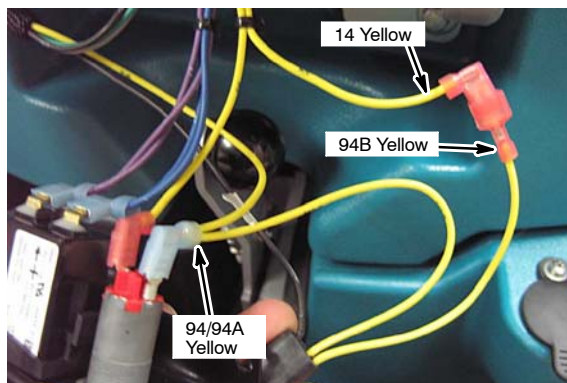

Fig. 24
8. Connect *ec-H2O* harness wires 94/94A yellow to key switch as shown (Figure 24). Connect 94B yellow to wire 14 yellow.